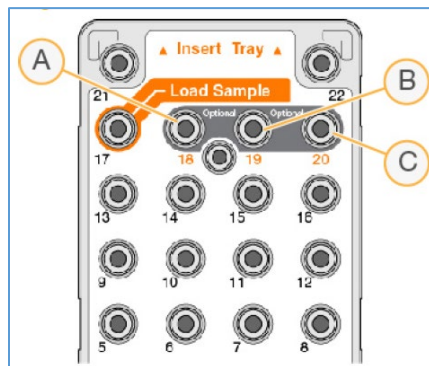

Figure 2. Reserved reservoirs in the sequencing cartridge: No. 17 for the library pool to be sequenced, no. 18-20 for custom primers.
- 9.7.4. Load **600 µl** of the denatured DNA library into the “**Load Sample**” reservoir (Fig. 2).
NOTE: *If sequencing Illumina DNA PCR-Free Prep libraries, add 600 µl of the thawed VP10 primer into the custom reservoir, position 18 (A in Fig. 2).*
NOTE1: The second dilution (0.01%) may be prepared directly in a MiSeq wash tube/reservoir (A in Fig. 2).